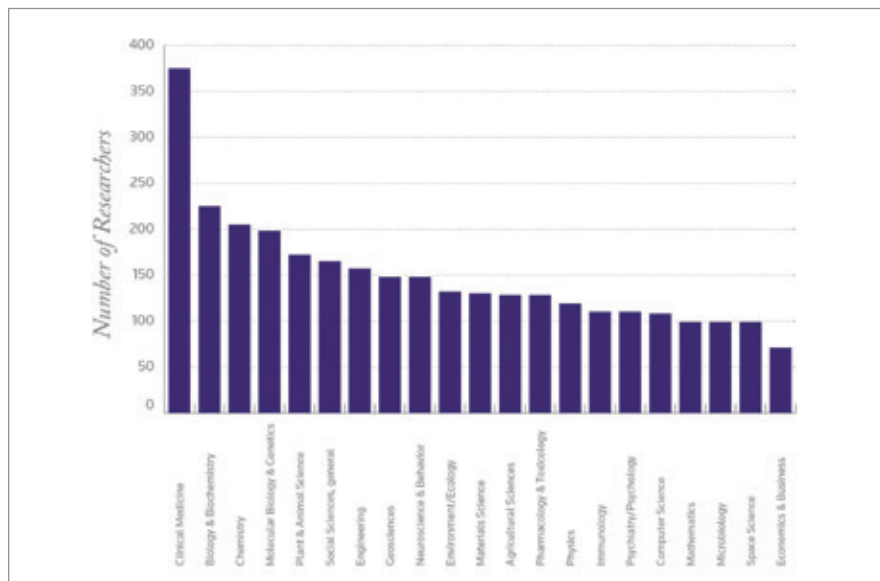

Figure 1. Highly cited authors broken down by field. Source: Thomson Reuters Web of Science & InCites.
Stacey Gabriel, Director of the Genomics Platform at the Broad Institute of MIT and Harvard, has been named “hottest researcher” in Thomson Reuters’ list of the World’s Most Influential Scientific Minds 2015. Published annually, the list recognizes scientists (in 21 broad fields, see Figure 1) whose work has “consistently wielded outsized influence in the form of citations from fellow scientists” (1).